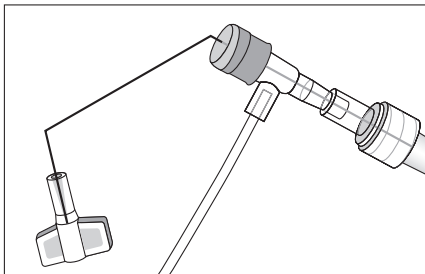

Figure 3
- 8. Kink proximal end of placement wire at side-port connector to minimize risk of placement wire exiting distal tip of catheter during insertion (refer to Figure 3).